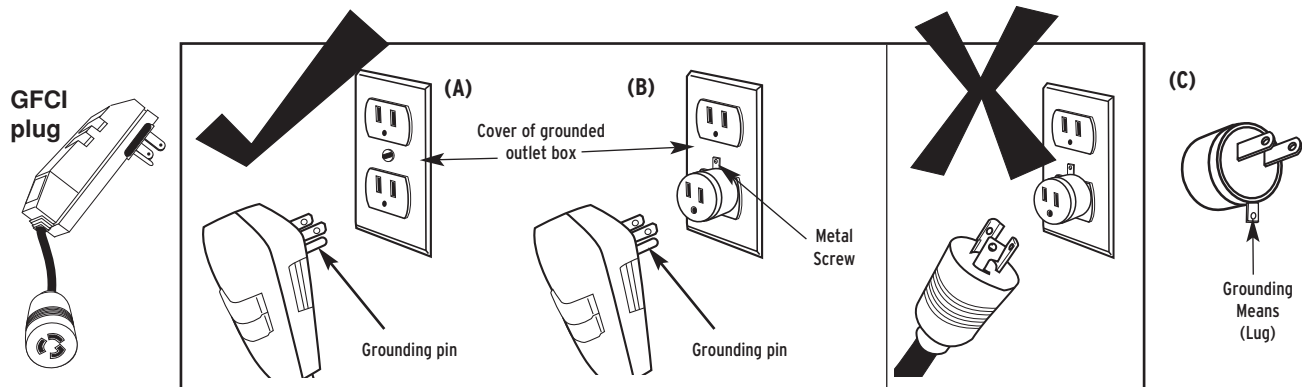

Figure 5
7. This saw is intended for use on a circuit that has an outlet that looks like the one illustrated in Figure 5. The GFCI plug used on the saw has a grounding plug
that looks like the plug illustrated in Figure 5(A). A temporary adaptor, which looks like the adaptor illustrated in Figures 5(B) and 5(C), may be used to connect the GFCI plug to a 2-pole receptacle, as shown in Figure 5(B), if a properly grounded outlet is not available. The temporary adaptor should be used only until a properly grounded outlet can be installed by a qualified electrician. The green-colored rigid ear, lug, etc., extending from the adaptor must be connected to a permanent ground, such as a properly grounded outlet box.